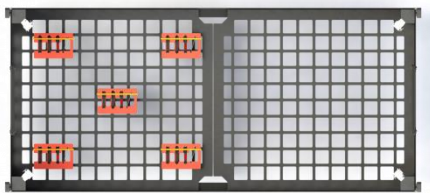

Fig 5.1.3. Setup for an Ultrasonic bath/washer Left Hand Side (LHS).
- c. Fig 5.1.3. an ultrasonic bath/washer with rectangular chamber – Left Hand Side.